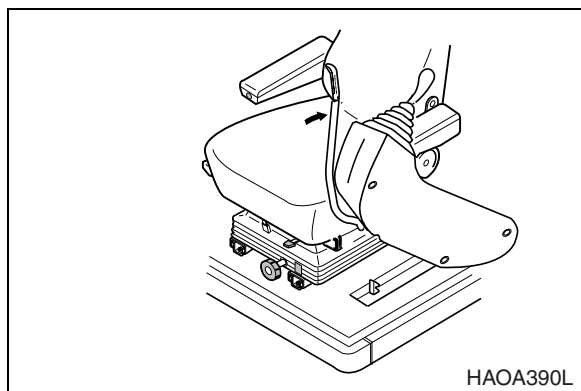

Figure 27
1. Pull safety lever (Figure 27) up to allow left-hand control console to raise into the "LOCKED" position. Make sure that the safety lever is "LOCKED" into the raised (up) position. When safety lever is in the "LOCKED" position, the front attachment, swing and travel movement will be disabled even though a lever is moved.